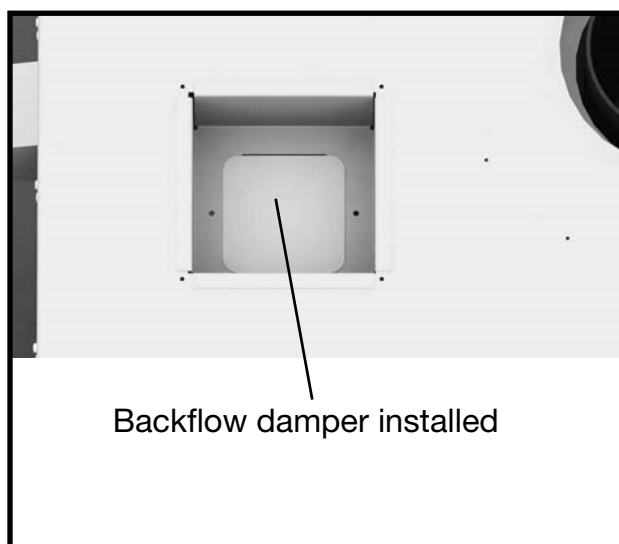

Figure 23: Backflow damper.
3. Place the Backflow Damper into the top of the unit (Figure 23). Ensure that the flap in the assembly is free to move. (Flap should be in the normally closed position with the blower off)